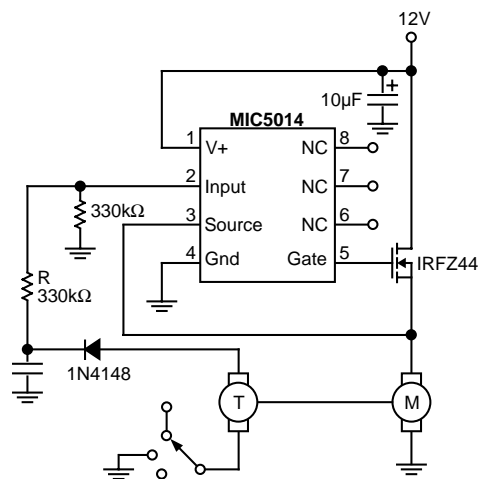

Figure 10. Motor Stall Shutdown
**Motor Driver With Stall Shutdown** (Figure 10) Tachometer feedback can be used to shut down a motor driver circuit when a stall condition occurs. The control switch is a 3-way type; the “START” position is momentary and forces the driver ON. When released, the switch returns to the “RUN” position, and the tachometer’s output is used to hold the MIC5014 input ON. If the motor slows down, the tach output is reduced, and the MIC5014 switches OFF. Resistor “R” sets the shutdown threshold.